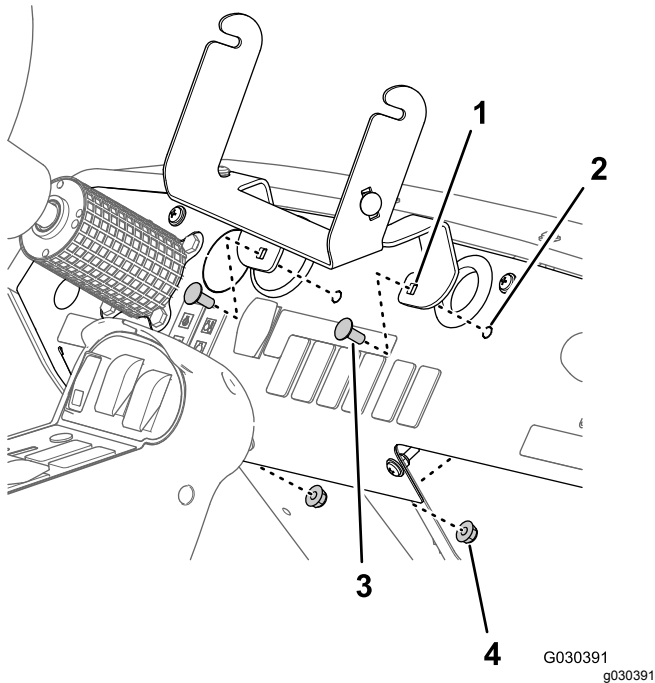

Figure 7
6. Remove the 2 carriage bolts (5/16 x 3/4 inch) and 2 flange locknut (5/16 inch) that secure the support bracket to the dash panel, and remove the support bracket from the machine (Figure 7).